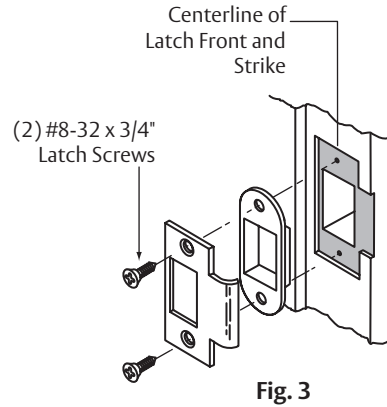

Fig. 3
2. Install strike in door frame. (Fig. 3)